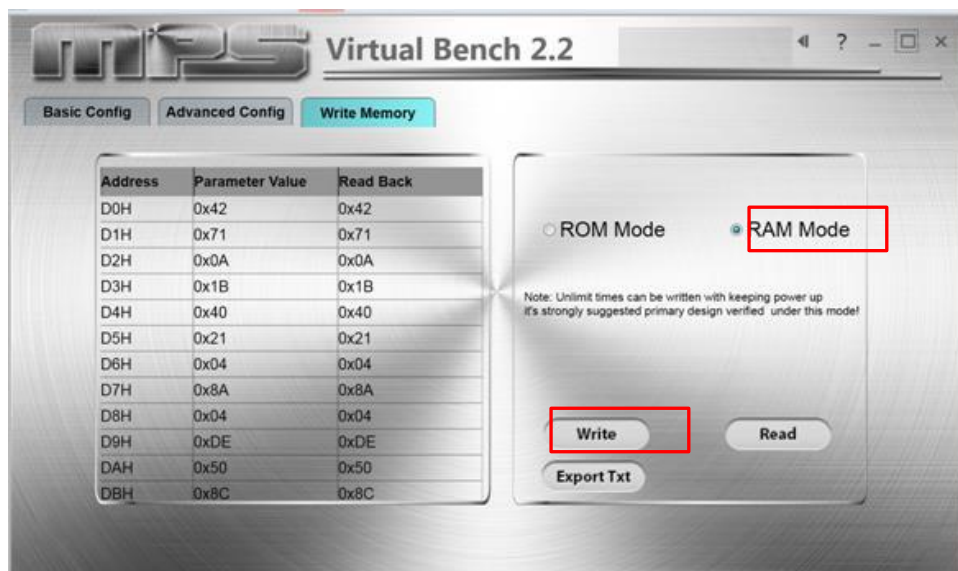
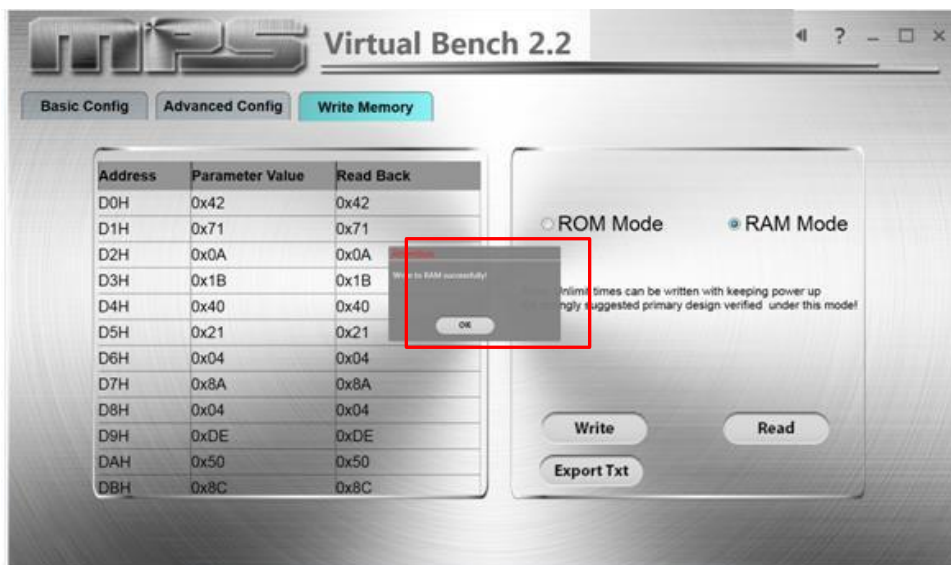

Figure 10: RAM Mode Write Version
Figure 11: RAM Mode Write Successfully
- Click the "RAM Mode" button and then click the "write" button to update values (see Figure 10). A successful writing is shown in Figure 11. If the writing is wrong, check your connection and restart your writing.